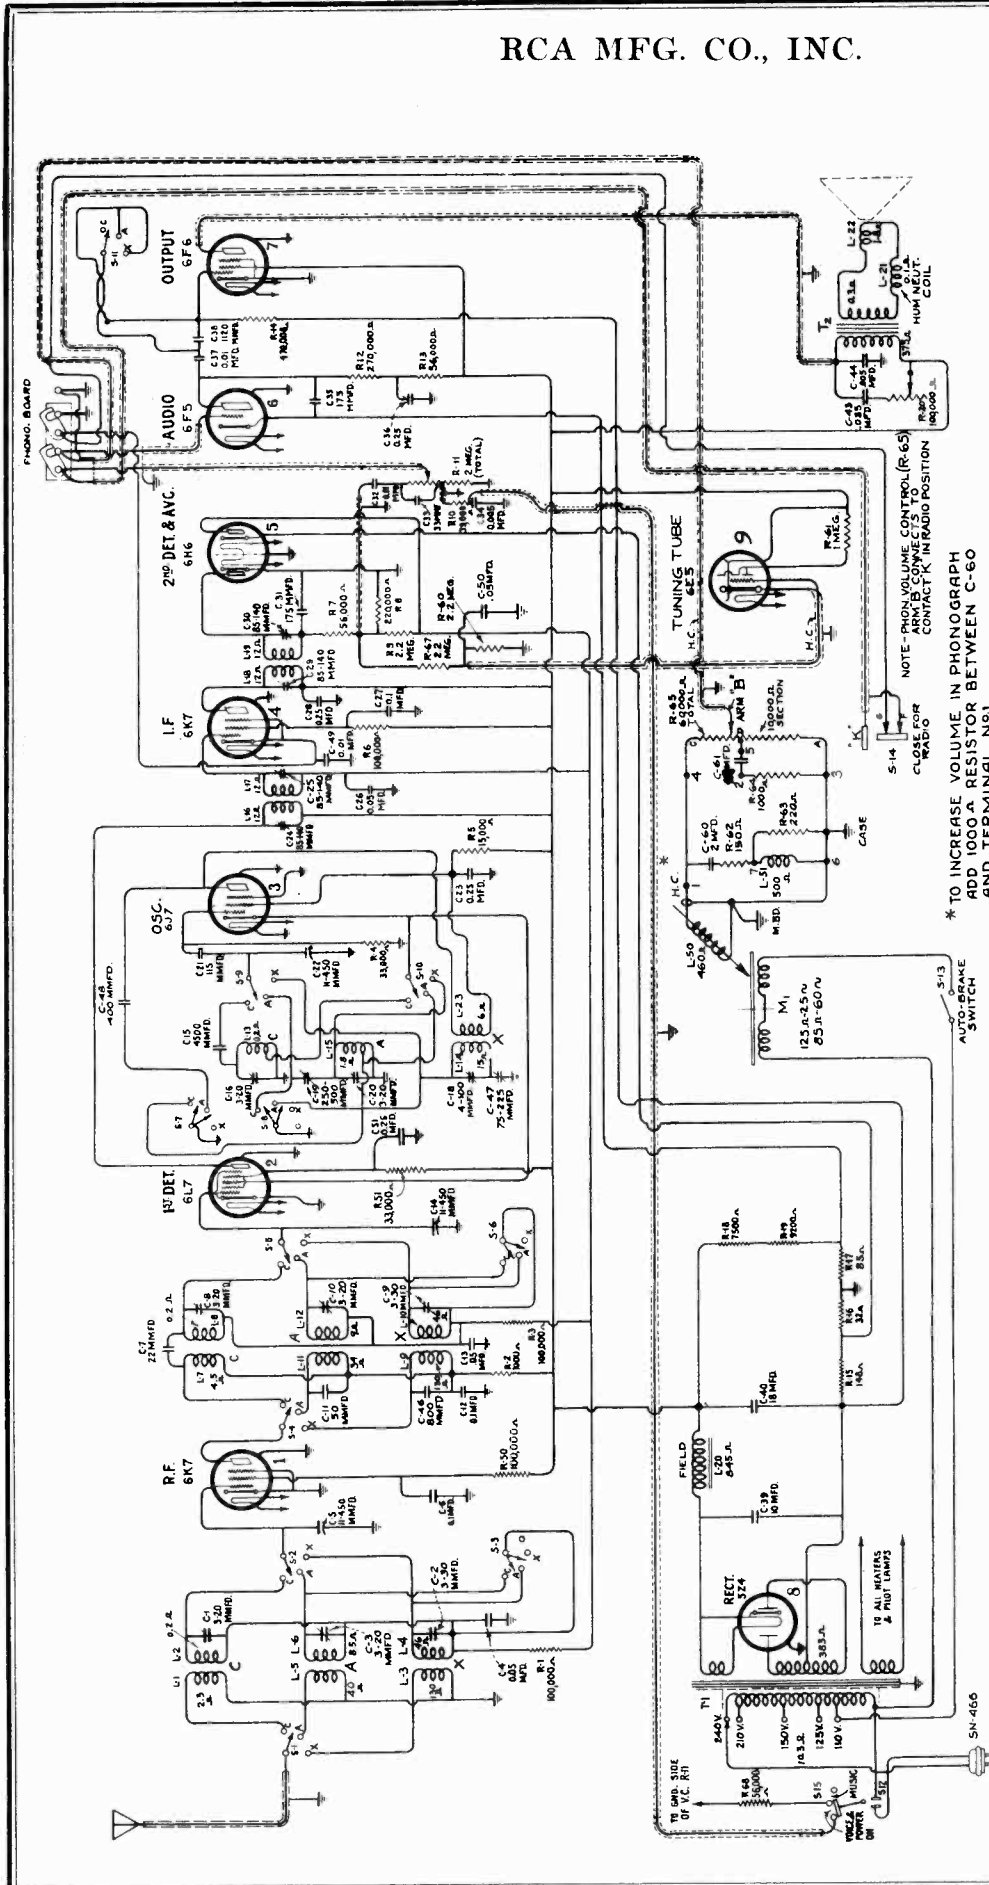

Figure 6—Schematic Circuit Diagram (Model D9-19 with metal rectifier and low-frequency tone control)
- (1) The schematic and wiring diagrams for Model D9-19 (with low-frequency tone control and metal rectifier) are shown by figures 6 and 7.
- (2) Washer Stock No. 11886 should be used for replacement instead of Stock No. 11230 in all Models D9-19. See parts list herein for description and price.
- (3) Bracket Stock No. 13615 should be used for replacement instead of Stock Nos. 11191 and 11192 in all Models D9-19. See parts list herein for description and price.
- (4) Refer to Substitute and Additional Replacements Parts contained herein for other parts changes.